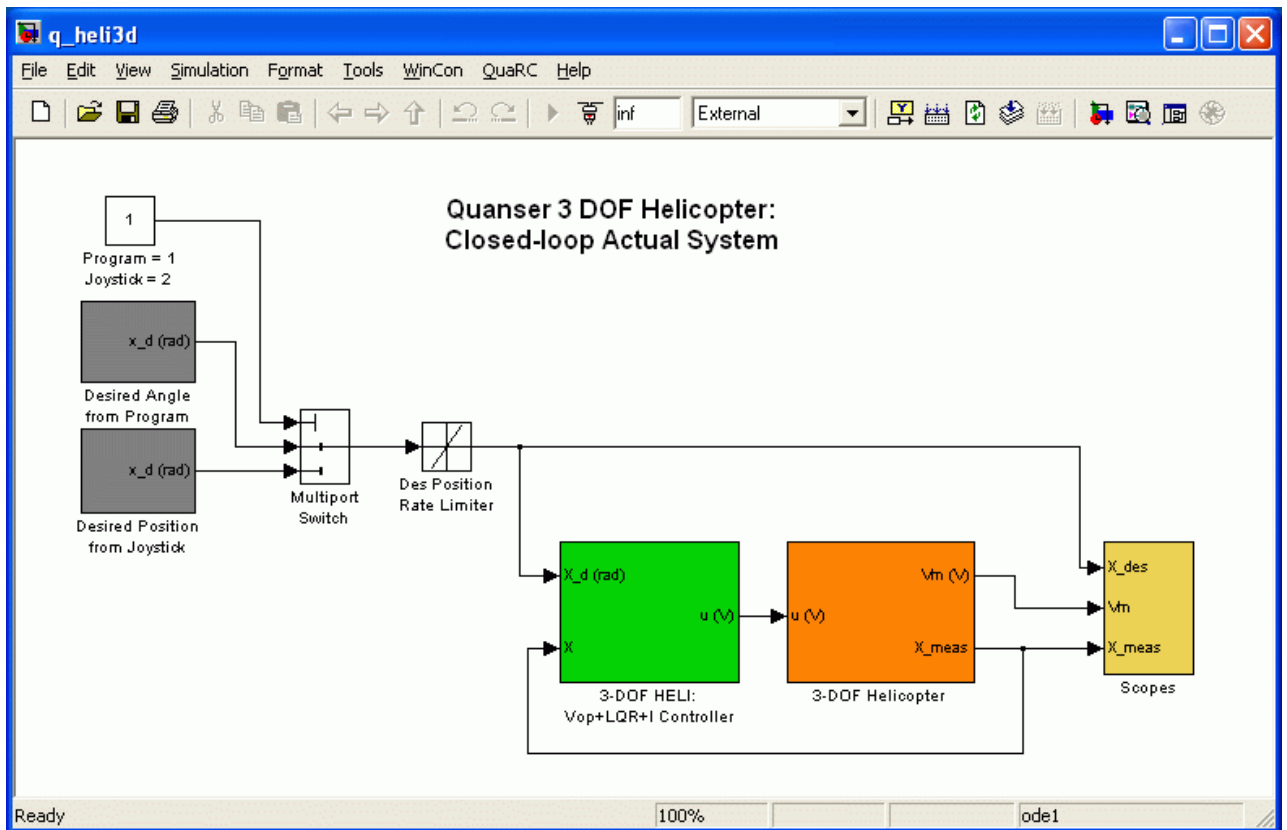
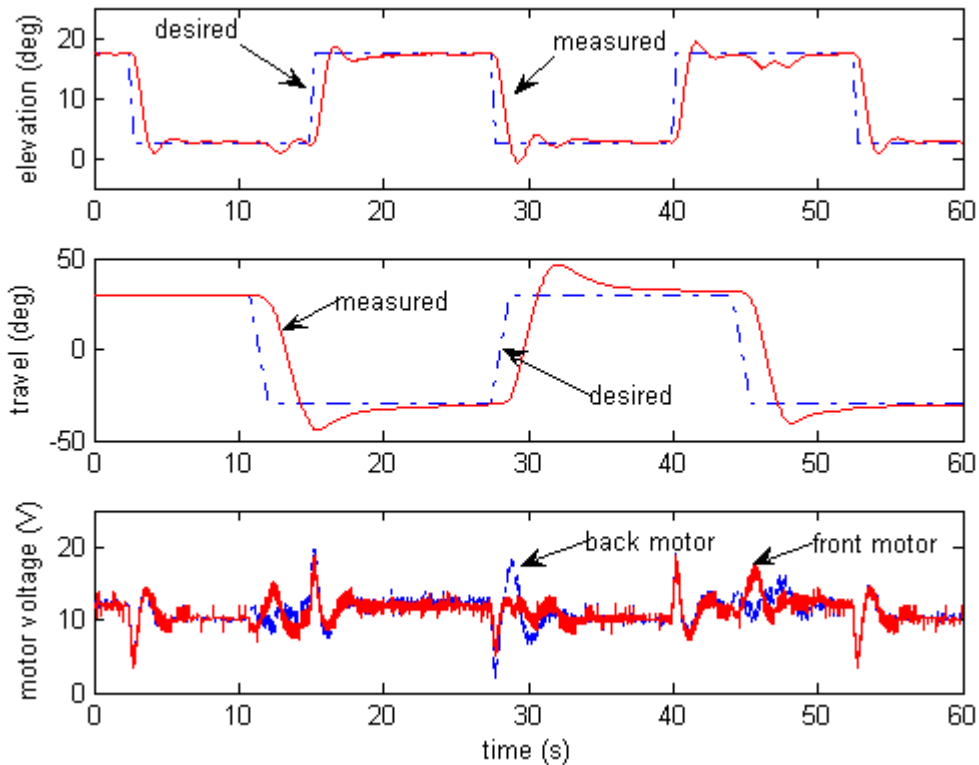

Figure 28: Simulink model *q\_heli3d\_q8* implements the LQR controller on actual 3-DOF Helicopter system.
Figure 30: Typical closed-loop response of 3-DOF Helicopter system.
2. Open Simulink model *q\_heli3d.mdl* shown in Figure 28 that implements a sample LQR controller. The model runs your actual 3-DOF Helicopter plant by directly interfacing with your hardware through the QuaRC blocks, described in Reference [2].
7. The voltage sent to the Analog Output block is amplified by the UPM-2405 and applied to the power amplifier's attached motor. Note that the control input is divided by the amplifier gain,  $K\_CABLE$ , before being sent to the DACB. This way, the amplifier gain does not have to be included in the mathematical model as the voltage output from the controller is the voltage being applied to the motor. The UPM and DACB saturation blocks limit the amount of voltage that can be fed to the motor. In this case, since  $K\_CABLE = 5$ , the voltage is only saturated by the UPM and not by the DACB. The  $V_m$  (V) sink is the effective motor input voltage and shows when the amplifier is being saturated.
9. Open the *elevation (deg)*, *travel (deg)*, and *Vm (V)* scopes in the *Scopes* folder. These scopes display both the desired and measured angles of the Helicopter as well as the voltages being applied to the front and back motors.
12. In the *q\_heli3d* Simulink diagram, make sure the *Program/Joystick* block shown in Figure 28 is set to 1 in order to generate the desired angle from Simulink.
17. In the *Vm (V)* scope, the green line is the front motor voltage and the red trace is the back motor voltage. These should be within  $\pm 25V$  and not go negative very often.
18. Figure 30 below is a sample closed-loop position response of the 3-DOF Helicopter when commanding an elevation step of  $\pm 7.5$  degrees at 0.04 Hz and a travel step  $\pm 30$  degrees at 0.03 Hz.
19. Alternatively, the desired angle can be generated using a joystick - either the analog or USB described in Section 5.5. To use the joystick, set the Program/Joystick switch shown in Figure 28 to 2. The rate at which the desired angle increases or decreases given a joystick position can be changed using the `K_JOYSTICK_X` and `K_JOYSTICK_Y` variables that are set in the `setup_lab_heli_3d.m` script file.
as discussed in Reference [2]. The *3-DOF Helicopter System* subsystem is basically the Simulink model described in Figure 28. The helicopter is not engaged until the Active Disturbance is calibrated.